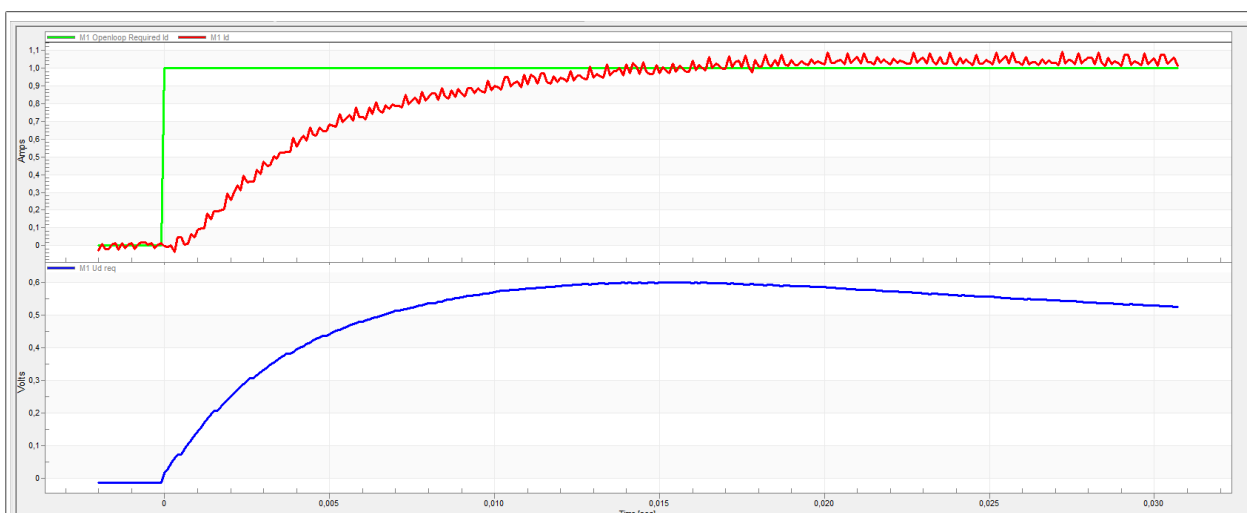

Figure 31. Slow step response of the Id current controller
- The loop bandwidth is low (100 Hz) and the settling time of the Id current is long (Figure 31).